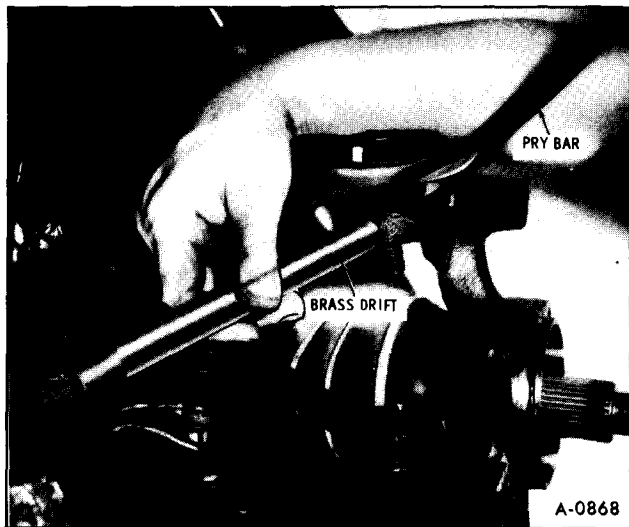

Figure 5—Removing Upper Ball Joint
8. Using hammer and brass drift, drive on knuckle until ball joint stud is free. (figure 5).